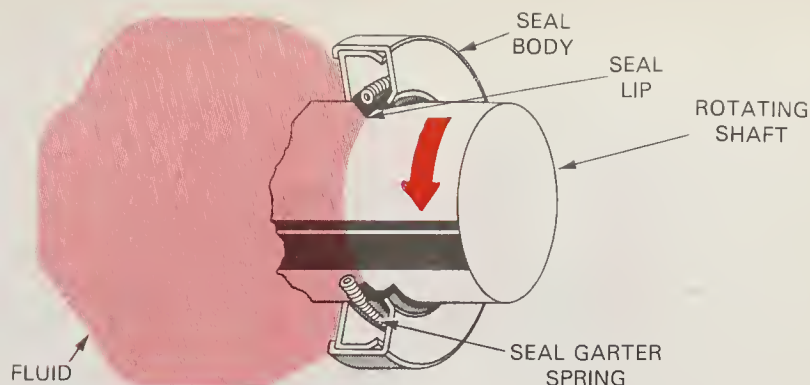
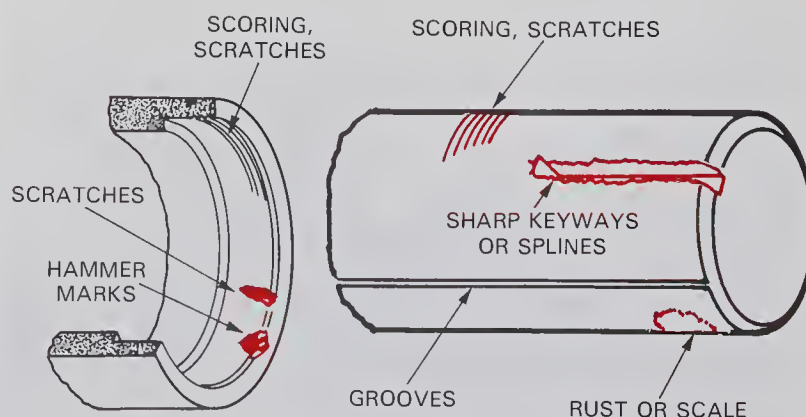

Fig. 9-25. Seal mounted in stationary part. Shaft spins inside seal. Seal lip faces fluid and keeps fluid inside part. (Caterpillar Tractor)
Fig. 9-26. Always inspect seal and shaft for damage. Slight nicks or scratches could cause leakage. (Federal Mogul)
Seals prevent leakage between a stationary part (housing, cover) and a moving part. They can be found in engines, transmissions, rear ends, power steering units, and almost any part containing fluid and moving parts. A seal allows the shaft to spin or slide inside the nonmoving part without fluid leakage. Seals are normally made of synthetic rubber molded onto a metal body, Fig. 9-25.
3. **INSPECT SHAFT FOR WEAR AND BURRS.** Look at the shaft closely where it contacts the seal. It should be smooth and flat. File off any burrs that could cut the new seal. A badly worn shaft, Fig. 9-26, will require polishing, a shaft sleeve repair kit, or replacement.
4. **CHECK NEW SEAL SIZE.** Compare the old seal to the new seal. Hold them next to each other. Both the inside diameter (ID) and outside diameter (OD) must be the same. To double-check inside diameter, slip the seal over the shaft. It should fit snugly to prevent leakage.
5. **INSTALL NEW SEAL CORRECTLY.** Coat the outside of the seal housing with approved sealer. Coat the inner lip of the seal with system fluid. Install the seal with the sealing **LIP FACING THE INSIDE OF THE PART**, Fig. 9-25.